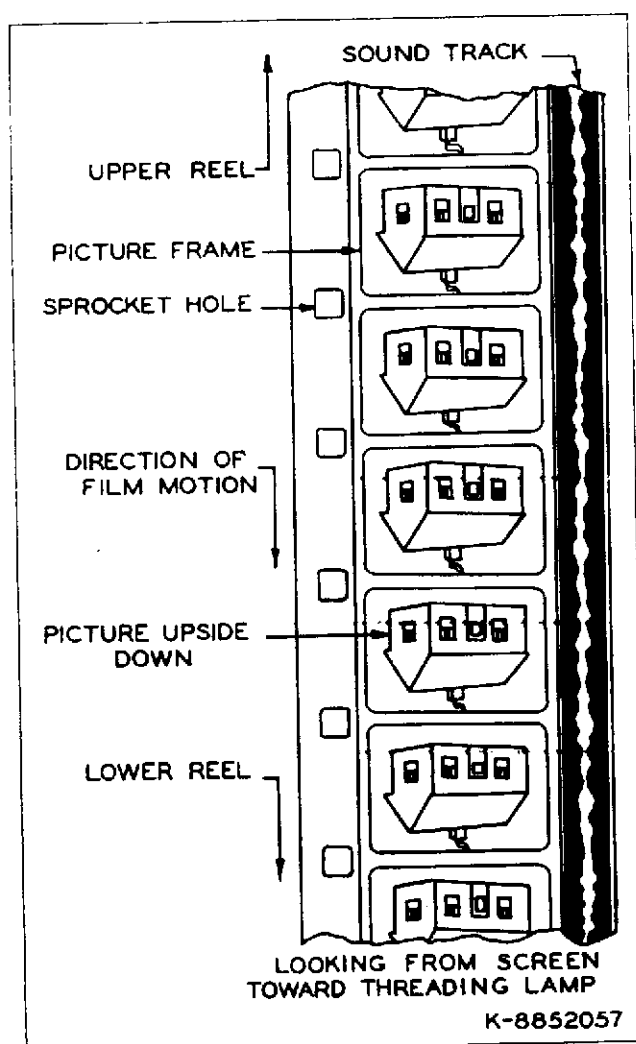

Figure 10—16 mm Sound Motion Picture Film
subject. Figure 10 represents a short section of such a film. The large rectangles in the center represent the individual photographs, the dark band at the right edge represents the sound track, and the wavy white line in the middle of the dark band represents the sound record.
36. The right-hand margin of figure 10 illustrates a typical sound track of the variable-width type. The black areas are opaque, the white transparent. The width of the transparent area may vary from nothing up to the limits of the opaque band, depending on the instantaneous strength of the sound recorded. It is the variation in the width of the transparent area from point to point along the track that is of importance. When this variation does not exist, no sound has been recorded on the film and none can be produced from it.